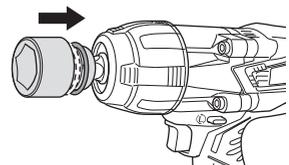

Fig. 3
- (3) While making sure that the pin doesn't fall, put the ring into the groove. (**Fig. 3**)